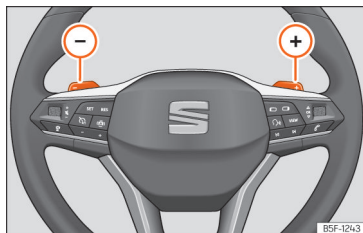

Fig. 103 Steering wheel: automatic gearbox levers
- Press the  gear shift paddle to change up a gear **»» Fig. 103**.